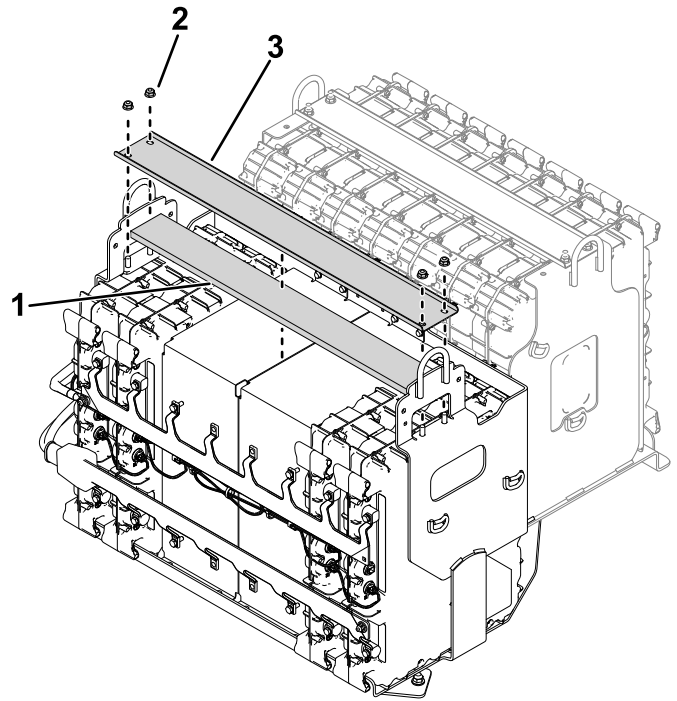

Figure 1
1. Remove the channel support and foam pad from the battery compartment that contains 4 batteries (Figure 1).
7. Install the channel support and foam pad; refer to Figure 1.